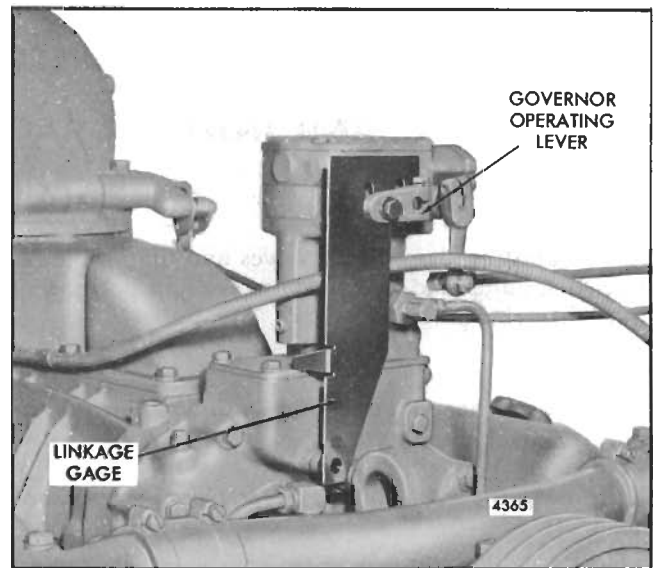

Fig. 4 - Positioning Governor Operating Lever
12. Replace the governor operating lever on the serrated shaft so that the bolt hole is lined up within the proper lines on the linkage gage (Fig. 4). The type